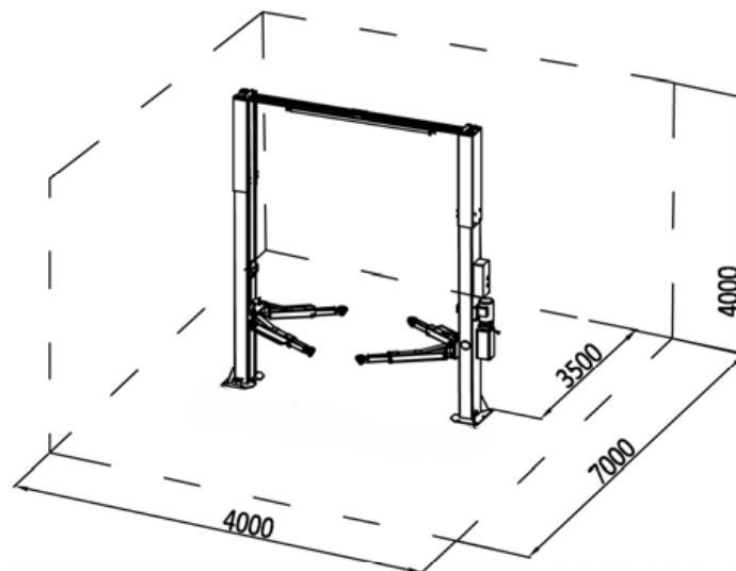

Figure 4
7.1 The equipment shall be installed in a dust-free and contamination-free indoor environment with adequate lighting (illumination level ≥ 100 Lx). The lift must be installed at specific safety distances from walls, columns, and other equipment. The minimum distance from the wall shall be 1000mm. To ensure emergency access and operational convenience, sufficient space shall be reserved for safety passages. The indoor height shall not be less than 4000mm (see Figure 4).